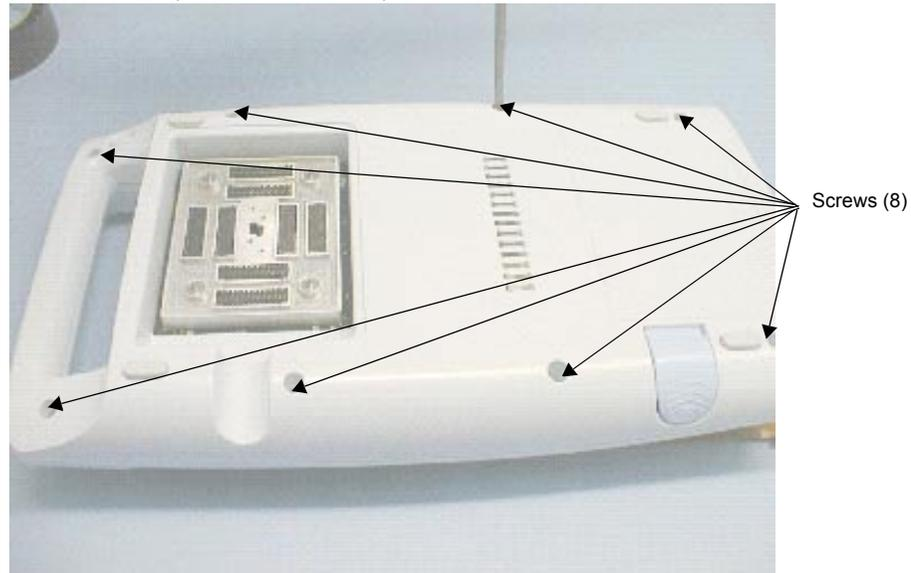

Figure 7.23 Securing the Bottom Housing to the Top Housing
5. Carefully mate the bottom housing to the top housing and use the #1 Phillips screwdriver to secure the eight screws (Figure 7.23). Torque the screws to 7.1 in./lb (0.8 newton meter).